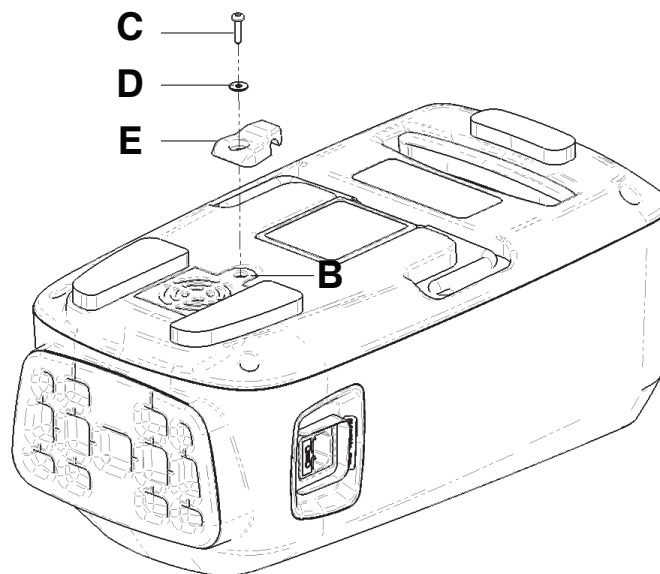

Figure 8 – Install the pump power cord p-clamp
- Using a T20 Torx driver, install the supplied delta screw (C) (0023-162-000), flat washer (D) (2941-007-002), and power cord retention flex grip (E) (2941-007-004) to secure the filter access door (B) to the back cover (Figure 8).